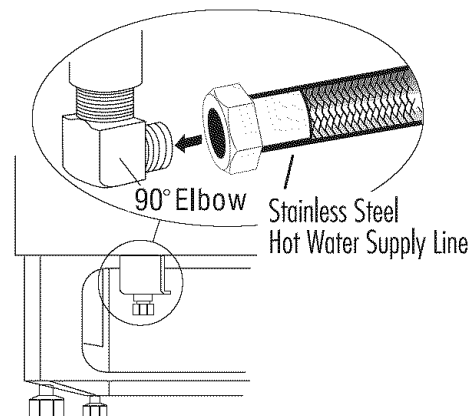

Figure 19
- Connect the stainless steel braided flex hose directly to the 90° elbow (as show in Figure 19)